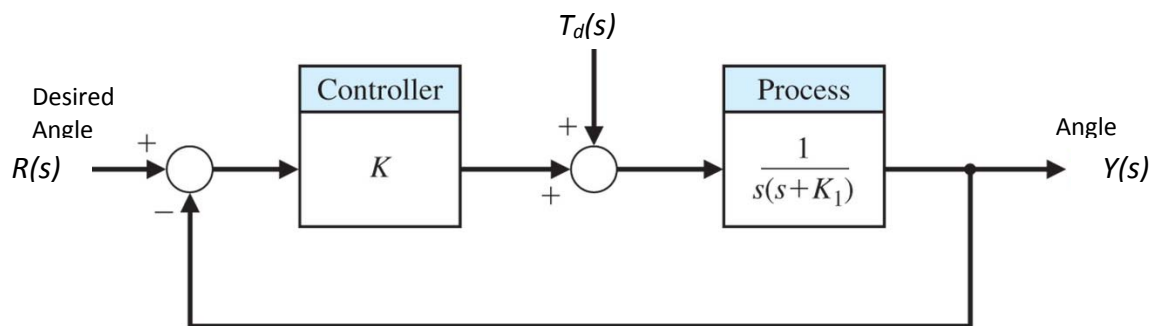

Figure 2
2. A tunnel boring machine utilized in Kuala Lumpur MRT project is equipped with laser guidance system to keep the machine precisely aligned. A model of boring machine controller with unity feedback laser guide system is shown in Figure 2. The effect of the load on the machine is represented by the disturbance $T_d(s)$. The system has two parameters, the controller gain K and the constant K_1 in the process.